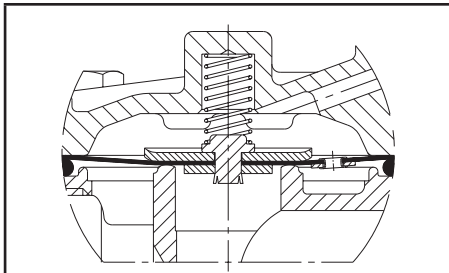
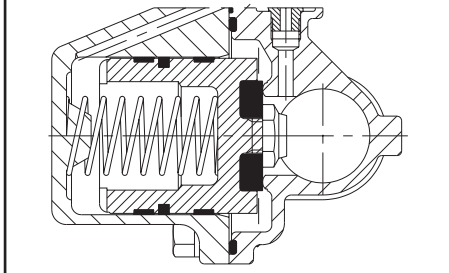

fig. 3a
fig. 3b
- **Floating diaphragm (Fig. 3a)** or **floating piston (Fig. 3b)**: